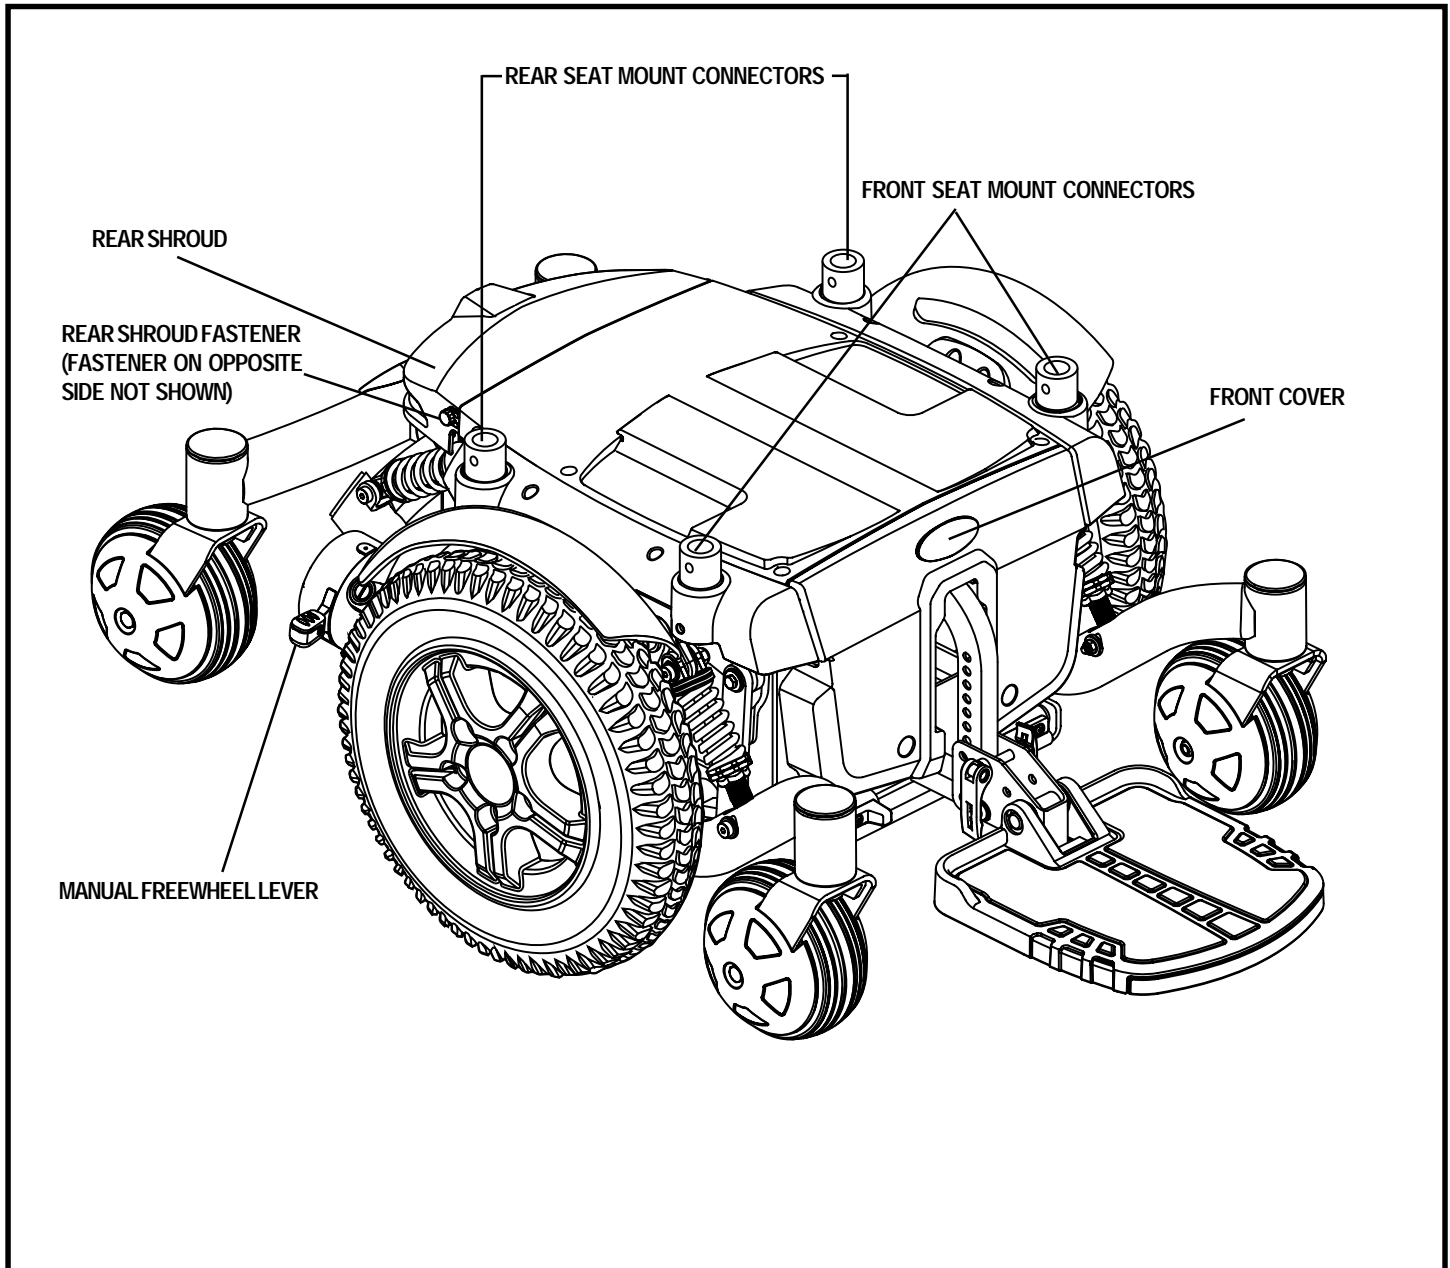

Figure 6. The Quantum 6000Z Series Power Base
5. Loosen the rear shroud fasteners and remove the rear shroud. See figure 6.
7. Replace the rear shroud and tighten the rear shroud fasteners. See figure 6.
3. Loosen the rear shroud fasteners and remove the rear shroud. See figure 6.